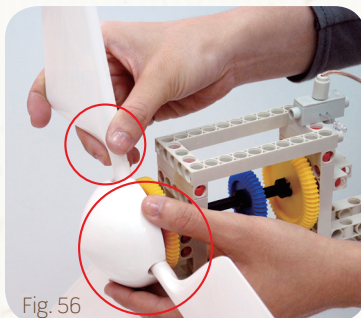

Fig. 56
- Refer to Fig. 56: Hold the hub with your left hand and adjust the angles by turning the bottom end of the blade.